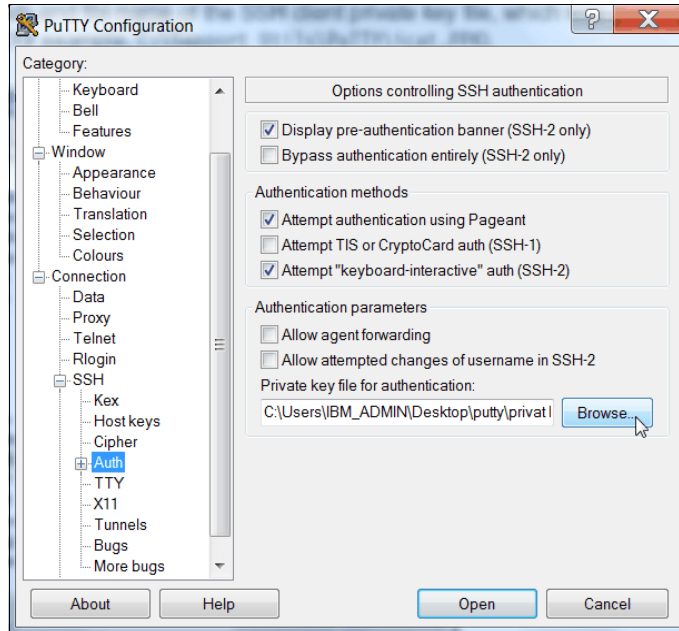

Figure A-16 SSH authentication
4. In the Category pane on the left, click **Connection** → **SSH** → **Auth**, as shown in Figure A-16. More options are displayed for controlling SSH authentication.